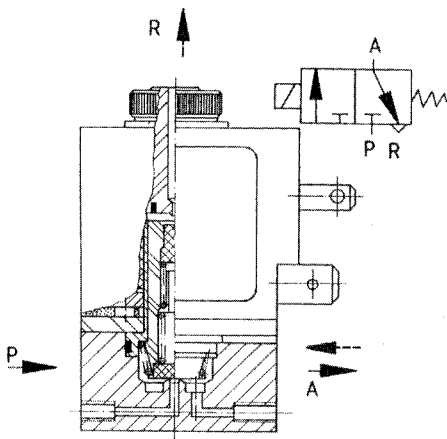

Fig. 4: X BR X 017 K 54 A01
- flat connector: see fig. 4 for dimensions